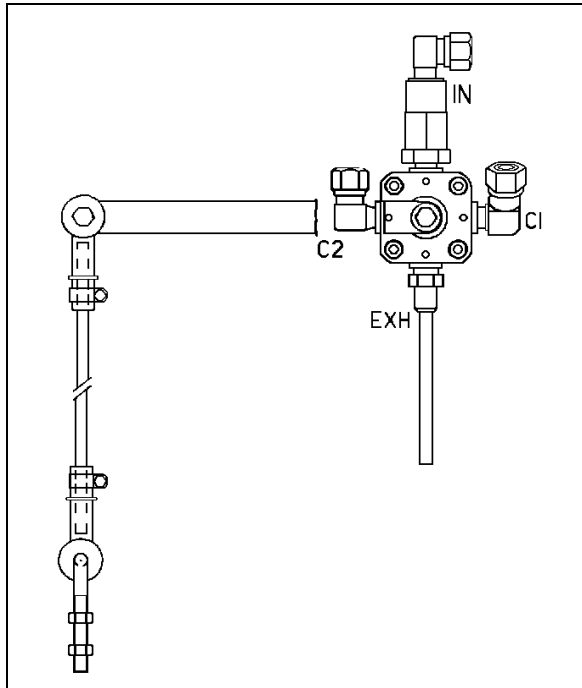

FIGURE 52: REAR HEIGHT CONTROL VALVE 16093
2. Loosen the clamp on the height control valve rubber coupling and bring it up or down (Fig. 52).